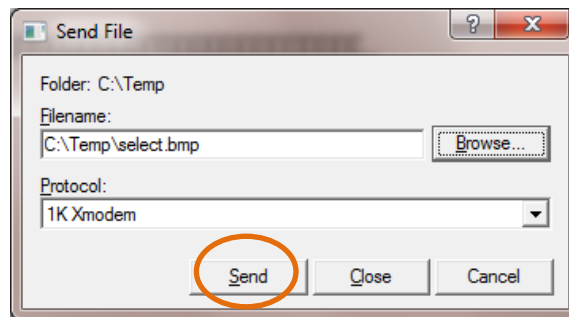

Figure C-7: Serial File Transfer Screen
8. A pop-up box for sending files will be shown (Figure C-7).